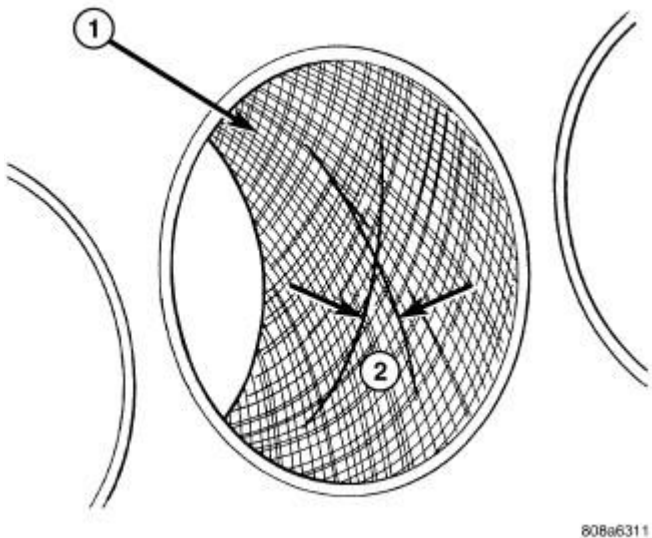

Fig. 161: Cylinder Bore Cross-Hatch Pattern
2. Honing should be done by moving the hone up and down fast enough to get a cross-hatch pattern. When hone marks **intersect** at 30-50 degrees, the cross hatch angle is most satisfactory for proper seating of rings. Refer to **Fig. 161**.